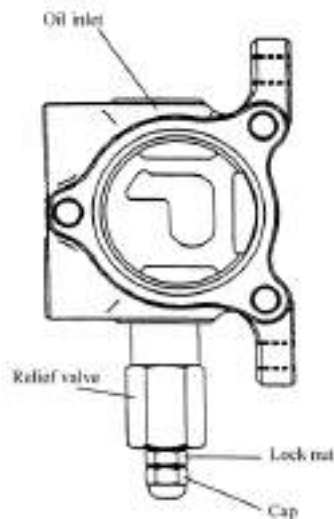

Fig.7-3 Setting pressure of relief valve
## (2) Setting pressure of the relief valve (Fig7-3)